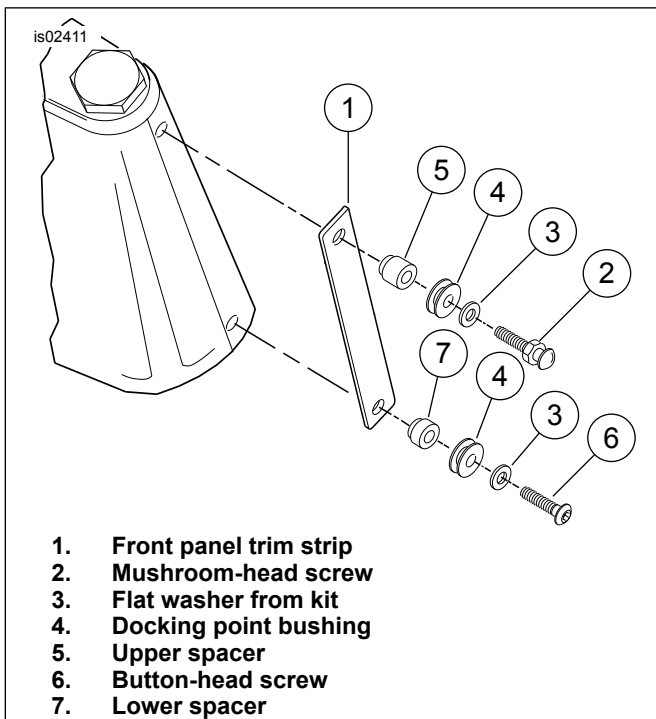

Figure 2. Front Panel Trim Strip and Windshield Dock Installation (Models Without Passing Lamps)
2. See Figure 2. Select a mushroom head chrome screw (2) from the kit. Place a flat washer (3) over the screw threads, followed by a bushing (4). Place one of the thicker upper spacers (5) over the threads with the cutdown end away from the screw head.
3. Insert the threaded end of the screw into the upper hole in the front panel trim strip (1), and then into the upper hole in the front and back panels. Tighten screws finger tight.